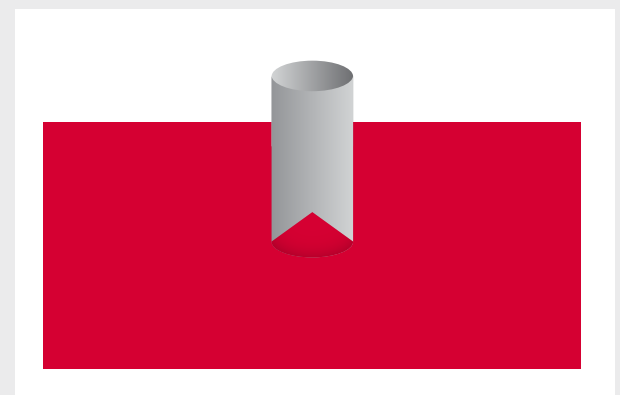

Figure 3:
4. Cut a "X" hole that is slightly smaller than the pipe diameter in the VaporFlex® Standard sheet at the pipe penetration location. *(Fig. 3)*